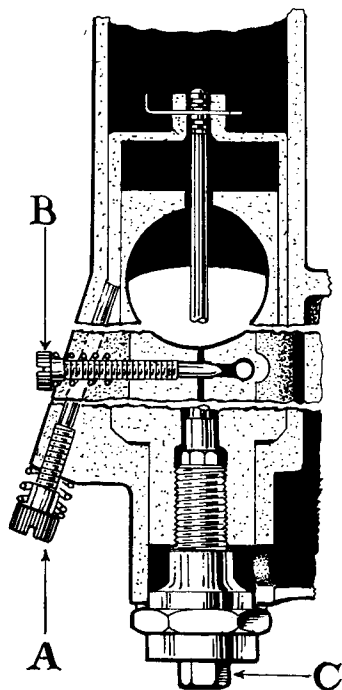

FIG. C.2.
Figure C.2 is a three-section diagram of the carburetter showing the throttle adjusting screw (A), and the pilot air adjusting screw (B).